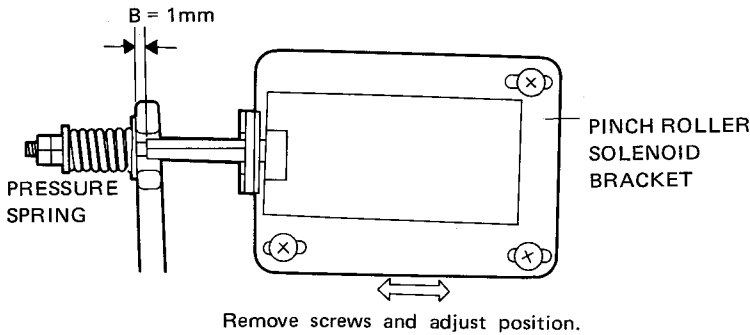

Fig. 13
6.4 PINCH ROLLER PRESSURE ADJUSTMENT (Figs. 13, 14)
3. Make sure that the gap B shown in Fig. 13 is 1mm.